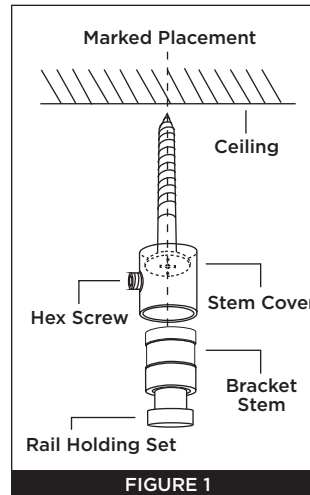

FIGURE 1
1. Mark ceiling where center of rail will be installed. Make sure to clear all obstructions. (FIGURE 1)